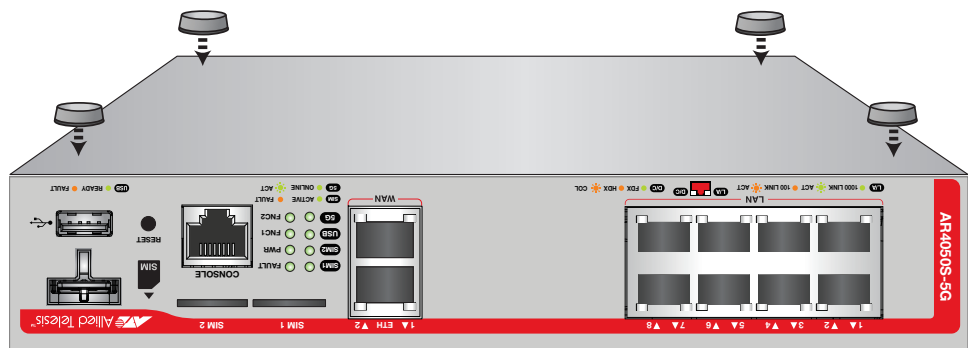

Figure 24. Attaching the rubber feet
3. Remove the adhesive rubber feet from the packaging and press them firmly onto the base of the router, as shown in Figure 24.
- Fit the rubber feet to the bottom of the router. See Figure 24.